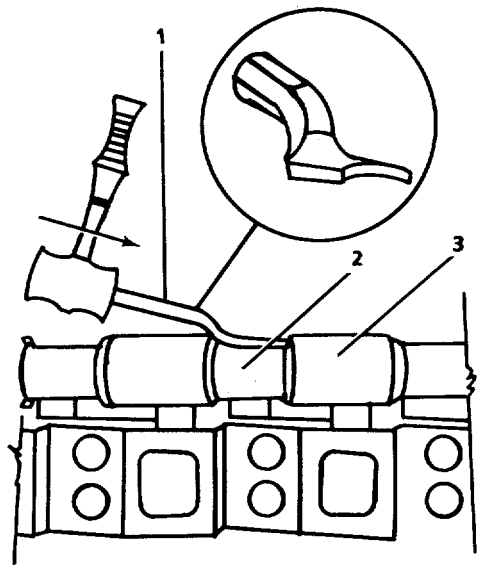

FIGURE 2-30. Water Transfer Tube Positioning for Removal.
- (2) Use a water tube driver (1, FIG. 2-30) and a hammer to push the tubes (2) until the tubes clear the housing (3) tube on the left bank toward the rear of the engine.
- (5) Use a water tube driver (1, FIG. 2-30) and a hammer to push the water tube into the adjacent housing until the groove is visible.